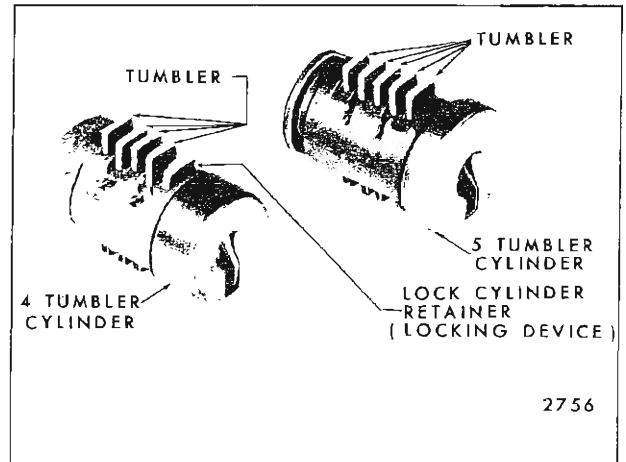

Fig. 1-7—Glove Compartment Lock Cylinder
**NOTE:** These two lock assemblies are equipped with four or five tumblers rather than six as used in other locks. Tumblers are used in positions 3-4-5-6 or 2-3-4-5-6 only. Tumblers which correspond to positions 1 and/or 2 on the key are not used. The non-brass, black "tumbler" that is closest to the head of the four tumbler lock cylinder is a locking device and must **NOT** be removed or filed. See Figure 1-7.